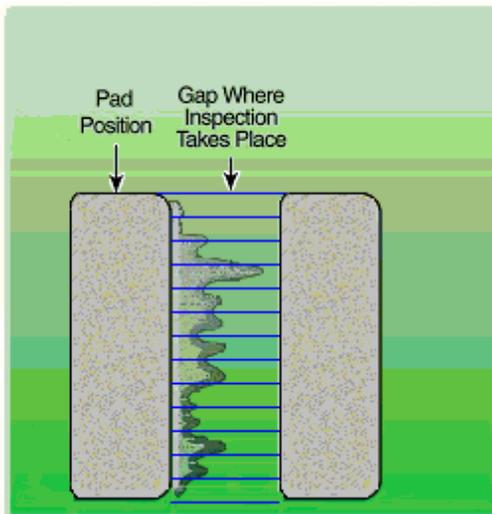

Figure 4
- Minimum Sensitivity (width of 15 mils) – maximum “averaging”, gross look for large variations, most lenient. (Figure 4)